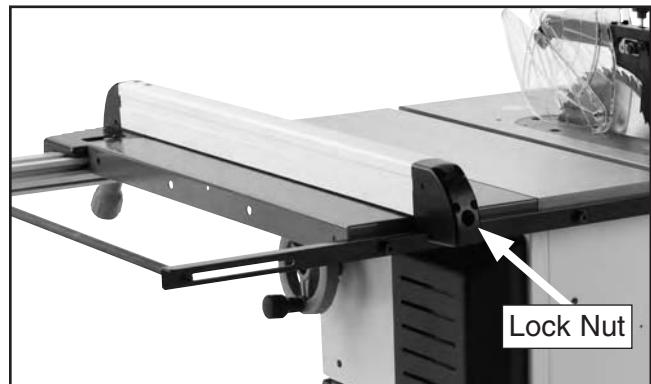

Figure 121. Location of lock nut for adjusting clamping pressure.
3. Using a 10mm socket, adjust the lock nut inside the back of the fence (see **Figure 121**) to loosen or tighten the fence clamping pressure.